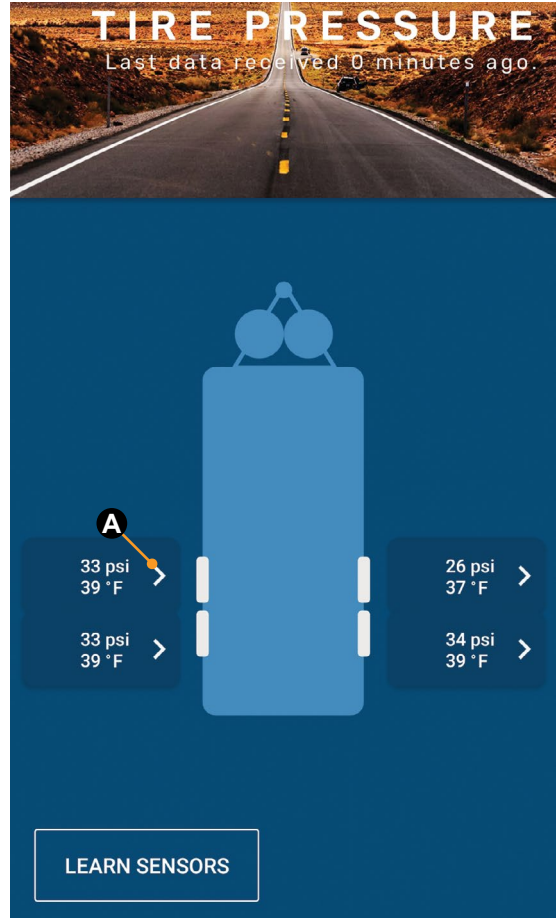
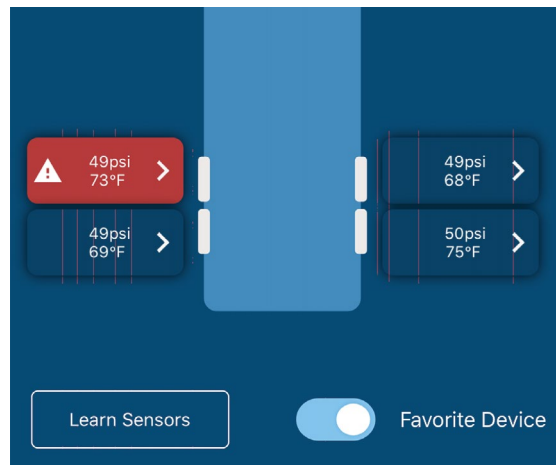

Fig.16
Fig.17
2. The smart phone will connect to the repeater and the app will display a trailer image with tire pressures and temperatures (Fig.16).
**NOTE:** Figure 16 shows tire pressures and temperatures within the specification ranges for the left front tire while figure 17 shows the tire is outside specification ranges.